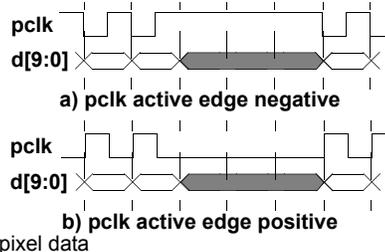

Figure 34. pclk in Data Ready Mode
- In data ready mode, (the *PixClkMode* bit of DVBUSCONFIG1 register is set to a logic 1), the pixel clock output pin **pclk** will produce a pulse with a specified level every time valid pixel data appears on the digital video bus **d[9:0]** as shown in Figure 34.